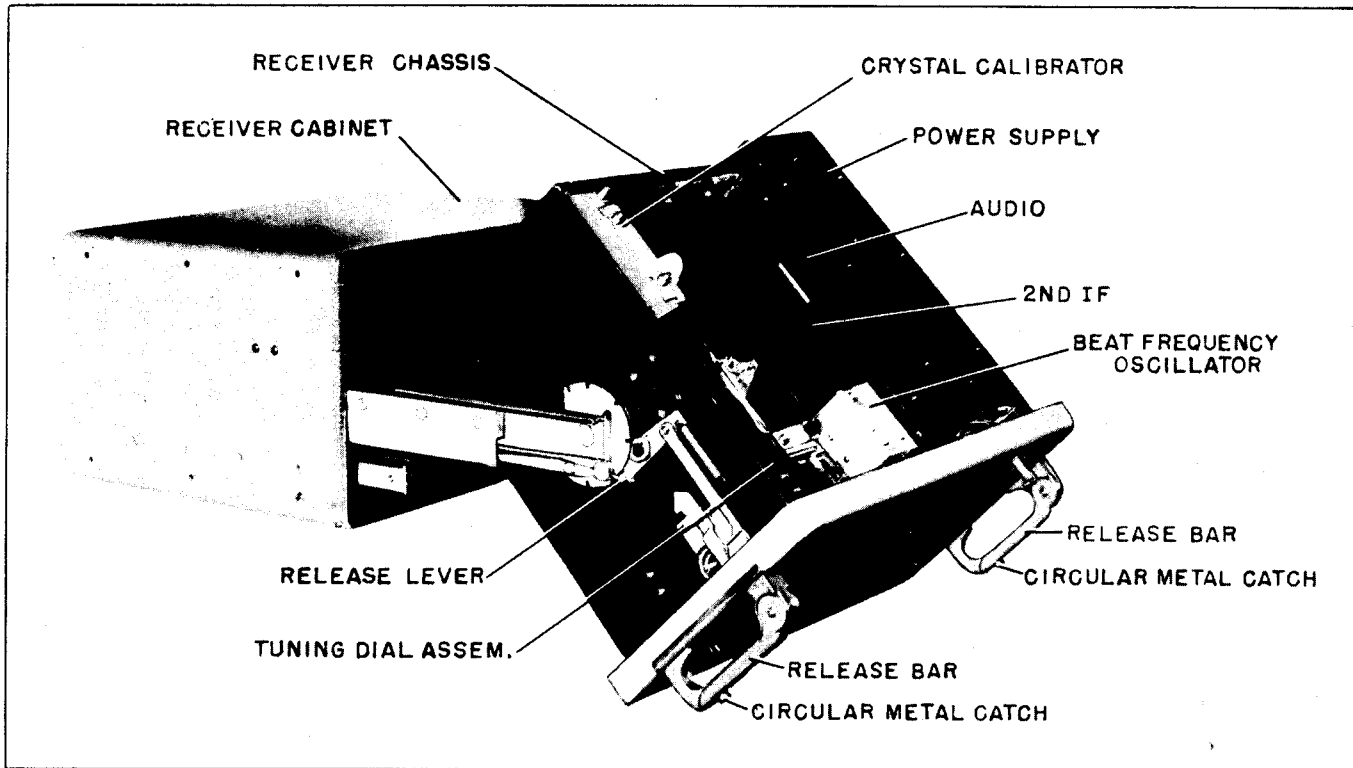
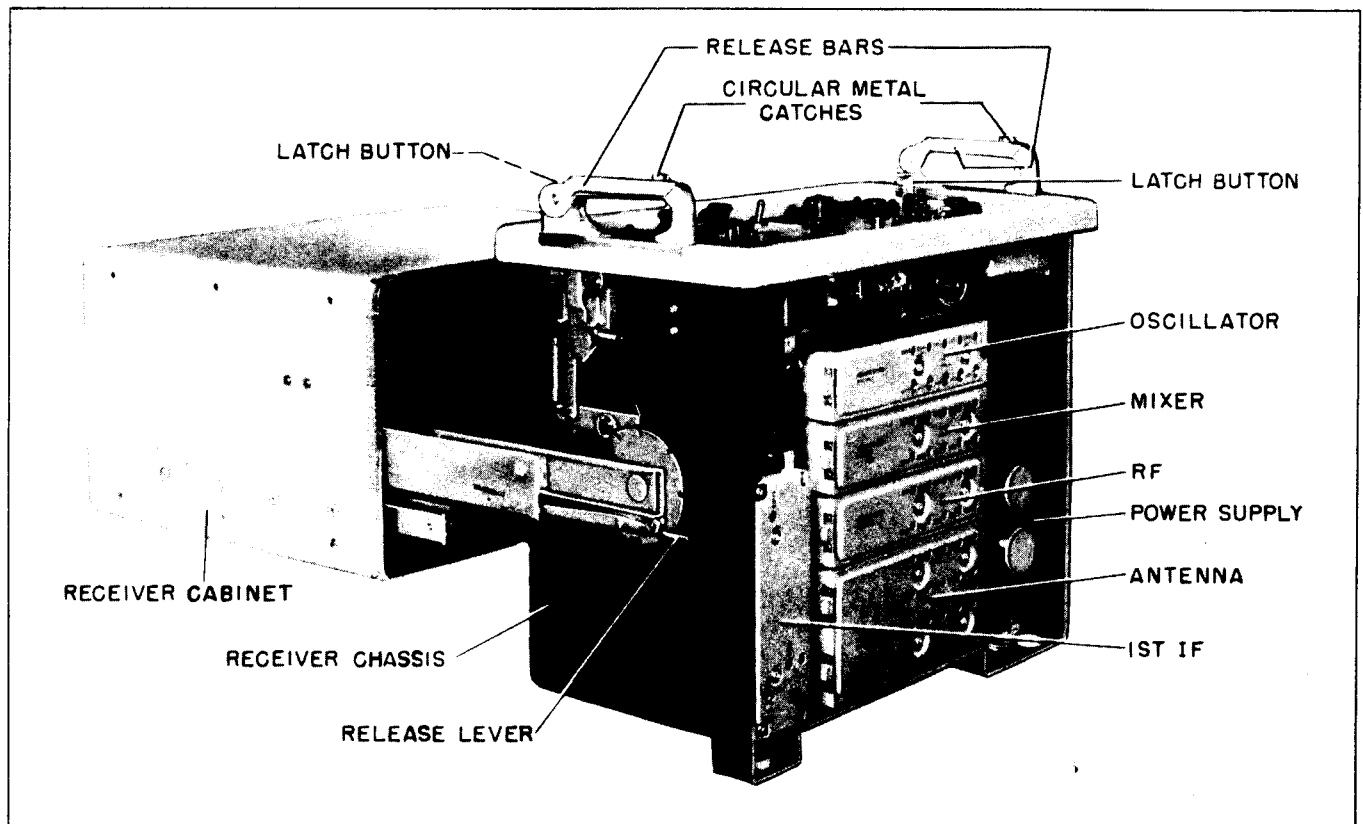

Figure 1-2. Chassis in Service Position, Top View
Figure 1-3. Chassis in Service Position, Bottom View
d. ASSEMBLY LOCATIONS.—As shown in figure 1-3, the antenna preamplifier, r-f amplifier, oscillator, mixer, and first i-f assemblies are accessible from the bottom of the chassis after it has been removed from the cabinet. Figure 1-2 shows a top view of the chassis from which the second i-f, audio, beat frequency oscillator, crystal controlled calibrator assemblies and power supply are accessible.